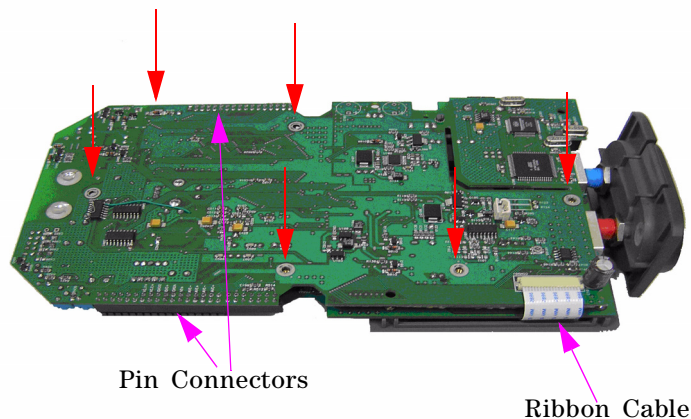

Figure 8-13 Remove the six screws and pull the ribbon cable from the PCBA board
- 2 The front view of the PCBA board is shown in Figure 8-10. Turn over the PCB assembly board with the LCD display facing downward and remove the screw at the location as pointed in Figure 8-13.
- 4 Unplug the pin connectors at both side of the PCBA board as pointed in Figure 8-13.